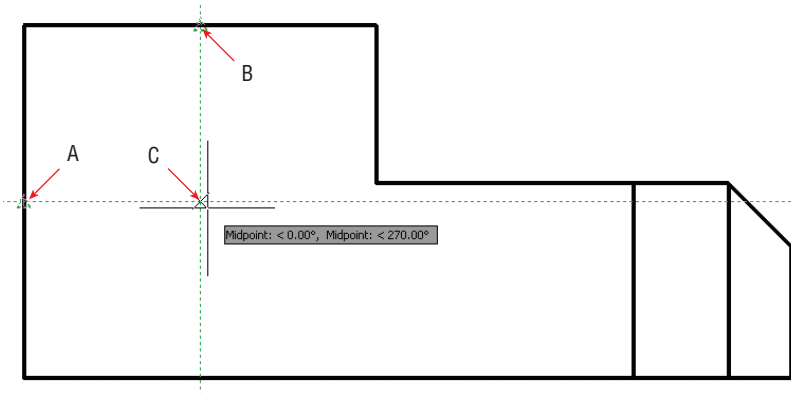

FIGURE 3.16 Locating a circle's center point with object snap tracking
4. Move the cursor over point A, as shown in Figure 3.16. When the running midpoint snap marker appears, move the cursor horizontally to the right to establish the first tracking line. Do not click yet.
5. Move the cursor over point B in Figure 3.16, and wait for the Midpoint marker to appear. Move the cursor down vertically to establish the second tracking line. Again, do not click yet.